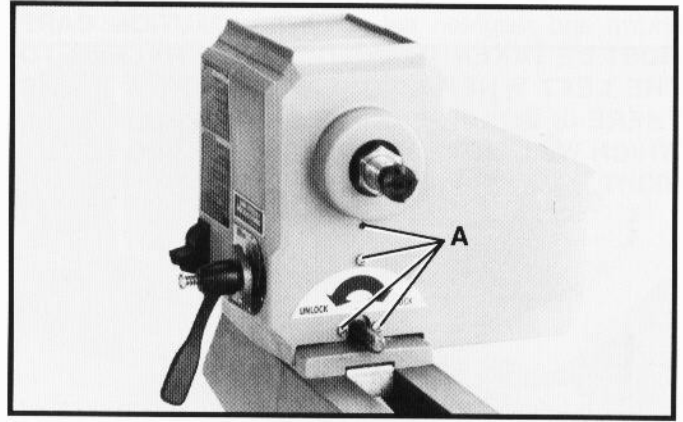

Fig. 93
2. Remove the four screws (A) Fig. 93, located on the right side of the headstock.